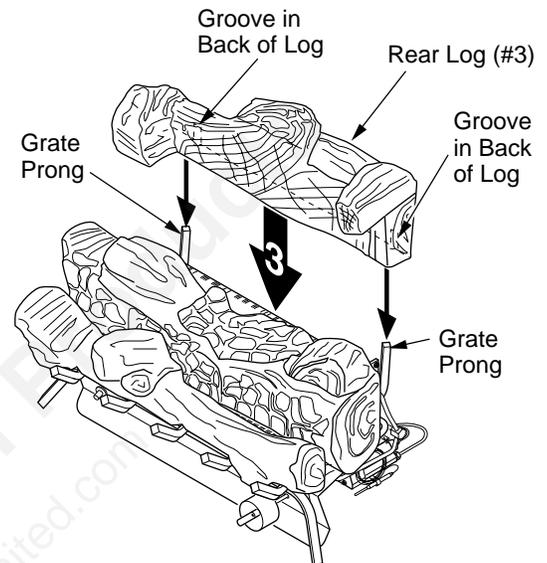

Figure 23 - Installing Rear Log (#3)
3. Slide the grooves in the back of the rear log (#3) against the rear grate prongs. Make sure the log fits securely over the prongs (see Figure 23, page 15). Make sure log is completely vertical and not leaning in toward burner where the flame will touch the log.